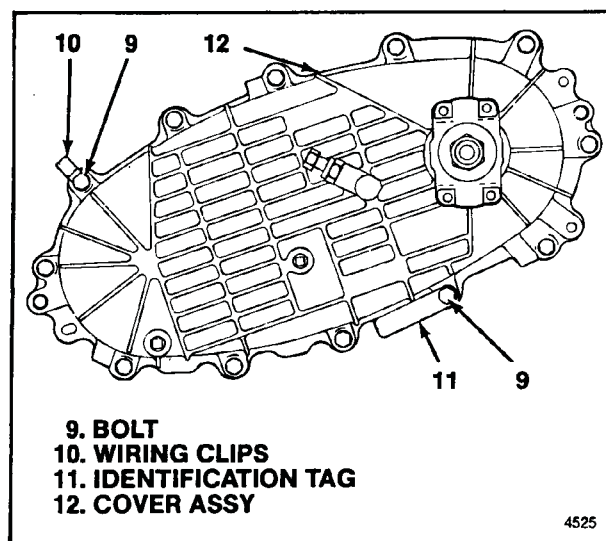

Figure 5-17. Wiring Clip and Identification Tag Locations
d. Install twelve bolts (9) positioning identification tag (11) and wiring clip (10) under bolt heads at locations shown in figure 5-17. Torque bolts to 40-45 lb-ft (54.2-61.0 Nm).